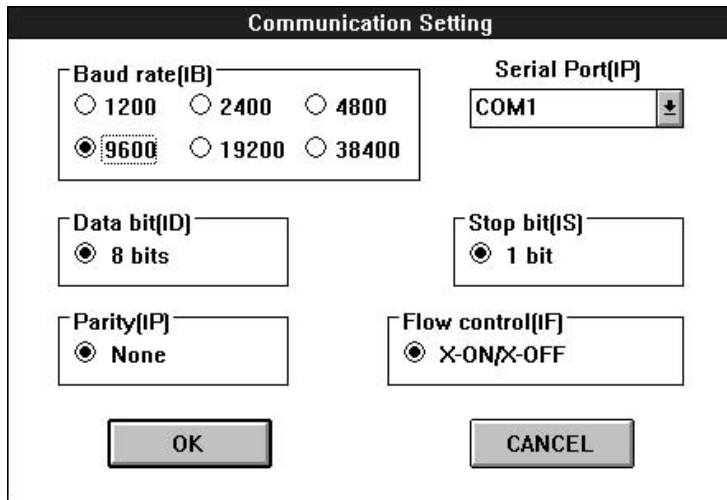

Figure 3.20 Communication Setting Box
1. Clicking COMM in the Setting menu displays the Communication Setting box (figure 3.20). The Communication Setting box can also be displayed by pressing (Alt) + S keys and then the C key. Set the communications conditions to be the same as those of the DIP switches on the E8000 station rear panel.